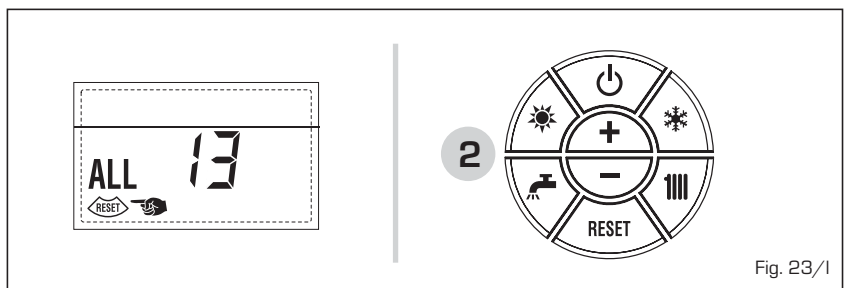

Fig. 23/l
- **EXHAUST FUMES TEMPERATURE SENSOR ERROR "ALL 14" (fig. 23/m)**